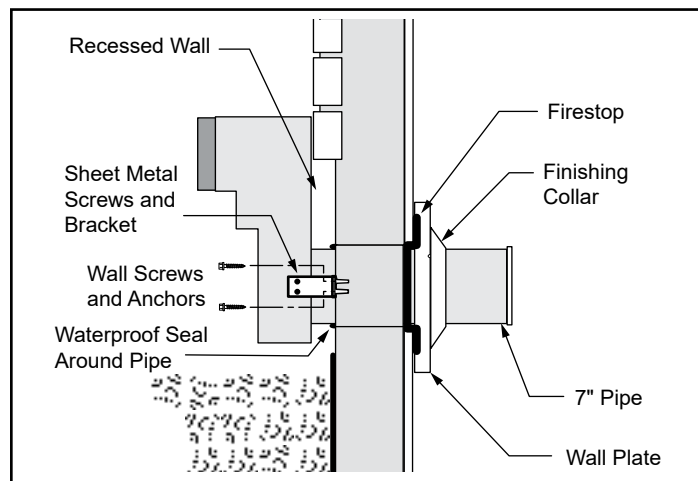
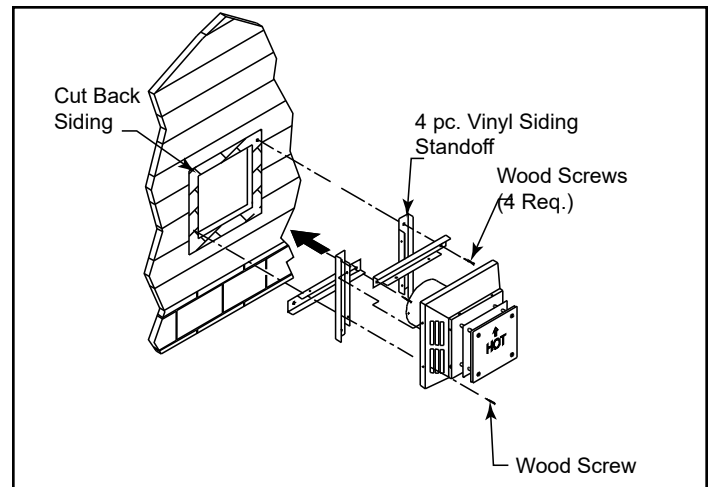

Figure 3.14 - Use extension brackets to mount snorkel against recessed wall.
Figure 3.29
2. Remove soil to a depth of approximately 16" (406 mm) below the base of the snorkel. Install a window well (not supplied). Refill the hole with 12" (305 mm) of coarse gravel and maintain a clearance of at least 4" (102 mm) below the snorkel, Figure 3.14.
7. If the foundation is recessed, use extension brackets (not supplied) to fasten the lower portion of the snorkel. Fasten the brackets to the wall first, and then fasten to the snorkel with self-tapping #8 x 1/2" sheet metal screws. Extend the vent pipes out as far as the protruding wall face, Figure 3.14.
prevents excessive heat from possibly melting the vinyl siding material. Vinyl siding standoffs are not required with snorkels. For vinyl wall installations a 4-piece vinyl siding standoff should be assembled and installed between the horizontal termination cap and the exterior wall, Figure 3.29. The vinyl should be cut away to the outer edges of the assembled standoff.
IMPORTANT: You must attach the four (4) pieces of the new vinyl siding standoff to the horizontal termination cap in specific order to ensure a weather tight fit. Loosely assemble the four parts, in order, around the base of the horizontal termination cap. Place the first of four pieces along the upper edge of the cap, then using two (2) screws per side, secure each piece to the pre-drilled holes along both sides of the cap, finally, attach the final piece to the bottom edge of the cap. Tighten all screws and mount cap, with all four (4) pieces attached, directly onto the wall with the four (4) 2-1/2" (64 mm) screws provided, Figure 3.29.
3. When penetrating through stucco wall, install the counter flashing. The counter flashing allows stucco, or other materials, to be finished directly to the sides of the termination cap. First attach the counter flashing to the base of the horizontal termination cap with the small screws provided, then mount entire assembly onto the wall with the four (4) 2-1/2" (64 mm) wood screws provided.
Step 4 - Before connecting your horizontal pipe sections to the horizontal termination cap, slide the wall thimble cover over the pipe section nearest the interior side of wall, Figure 3.14.